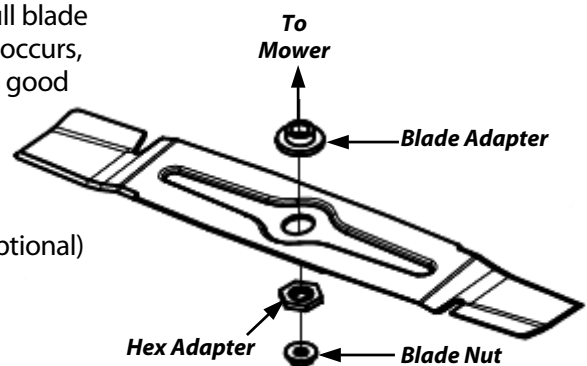

Figure 30
5. Remove the Blade Nut, Steel Hex Adapter, Blade, and Steel Blade Adapter in that order (Figure 30).
6. To install a sharpened Blade or a new Blade, reverse the order of step 5. Be sure to replace all parts exactly as you removed them (Figure 30) and make sure to properly seat the Blade.